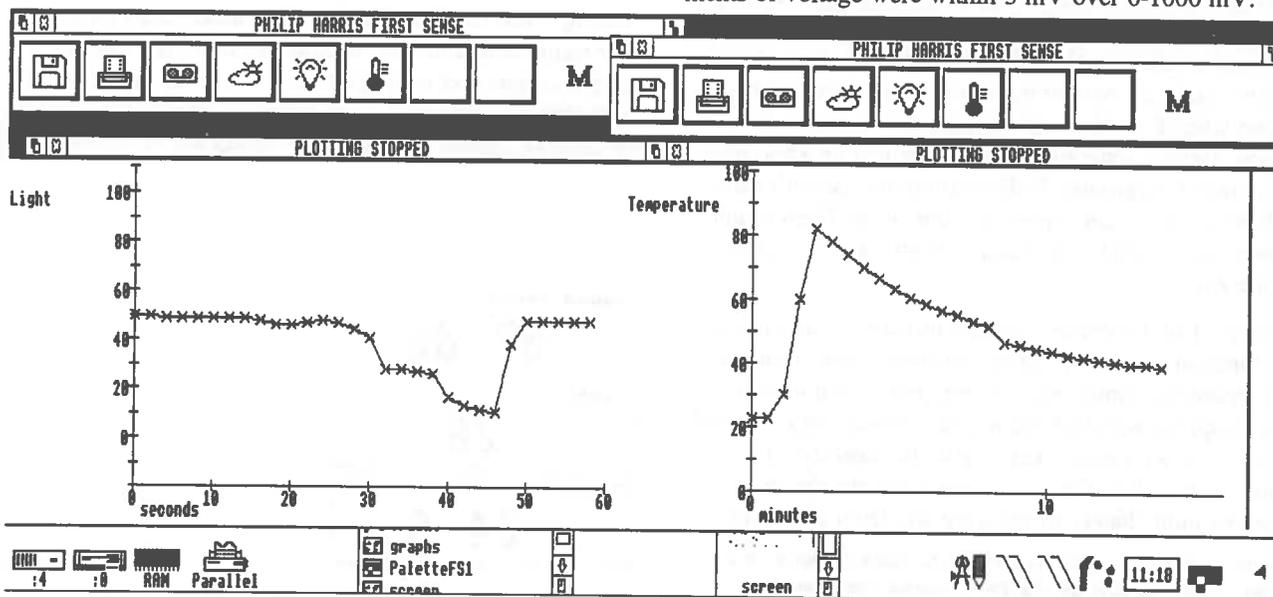

Fig. 3 - Readings from two sensors displayed on one screen - using RISC-OS version of First Sense
**Timing:** very satisfactory. Well within 1% error over 2 hour test. A maximum of 30 readings may be taken for any one sensor. On the BBC B and Master versions of the software, the computer can log readings from only one sensor at a time. New versions of the First Sense software, currently under development, exploit the Arc's multi-tasking abilities and allow two or more programs to be run at the same time. Therefore readings from the separate sensors can be displayed concurrently (Fig.3).